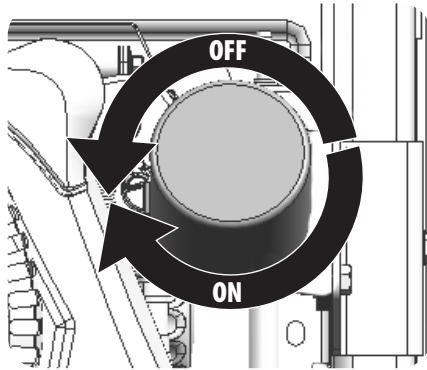

Figure 21
7. Locate the oil filter on the oil filter adapter bracket inside the RH console. See Figure 21.